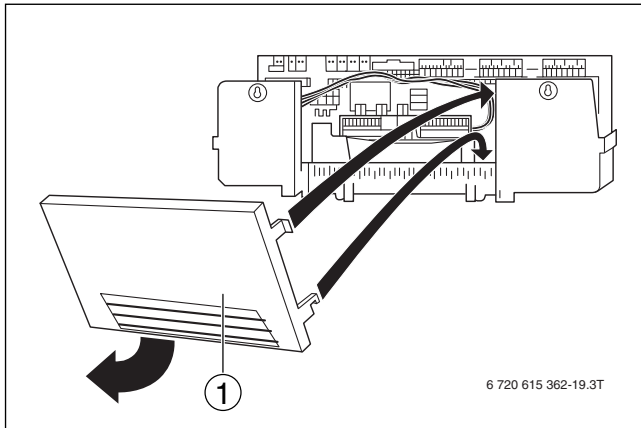

Fig. 24 Preparing the cable entry
- Knock out or cut out the appropriate parts from back panel [1] (→ Fig. 24) as required.
- ▶ Refit back panel (→ Fig. 24) to the control unit.